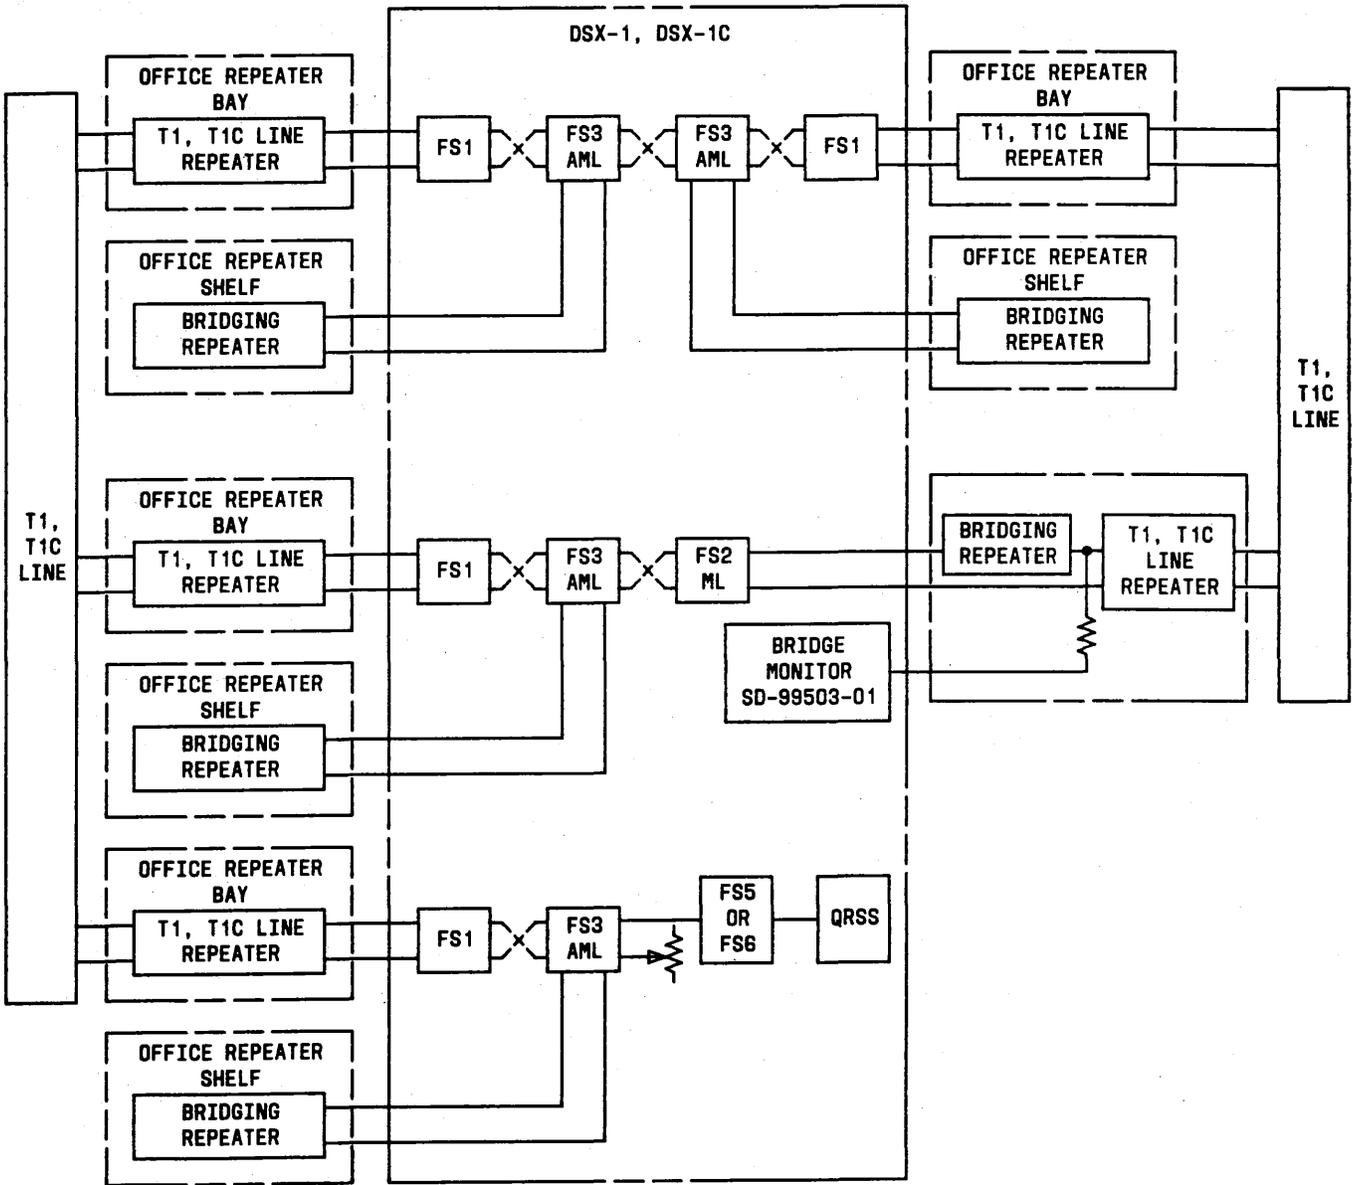

Fig. 13—Bridging Repeater Connection for Auxiliary Maintenance
6.08 The bridging repeater used with an AML circuit will be mounted in the DSX lineup or mounted miscellaneous. Figure 13 shows a typical schematic diagram of an AML circuit and how it connects on one side. The connection on the other side is IN to OUT and OUT to IN as in a normal maintenance line cross-connection. Signal plugs are installed in the IN and OUT jacks of the standard transmission set as a precaution against an unintentional interruption of the circuit.